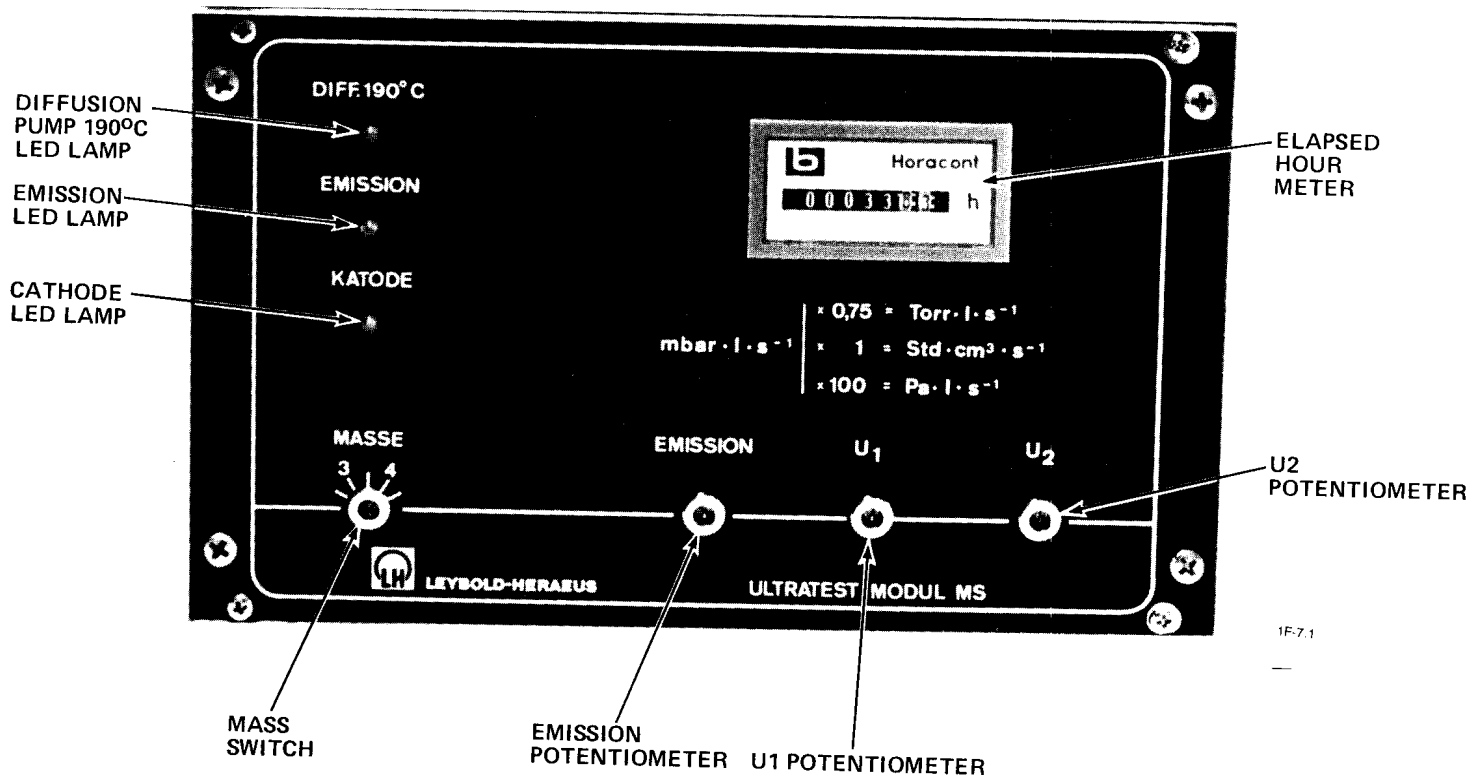

Figure 4-2 - MS Module Controls
(see Figure 4-2 for the MS Module controls and Appendix D for additional controls for the ULTRATEST with the manual gross leak bypass modification)
(see Figure 4-2 for the MS Module Controls and Appendix D for additional controls for the ULTRATEST with the manual gross leak bypass modification)
3. Ensure that the mass switch is in the 4 position (see Figure 4-2).
7. Proceed as follows to adjust  $U_1$  and  $U_2$  (see Figure 4-2).